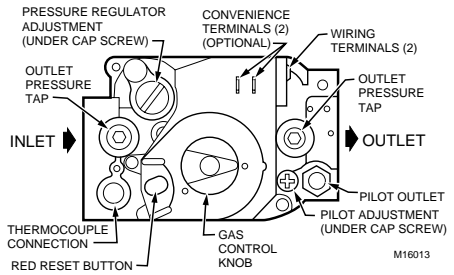

Fig. 5. Top view of gas control.
2. Remove the regulator cap screw and pressure regulator adjusting screw. See Fig. 5.
6. Connect the pipe to the gas control inlet and outlet. Use a wrench on the square ends of the gas control. If an adapter is used, place the wrench on the adapter rather than the gas control. Refer to Fig. 5 and 6.
- Unscrew the compression fitting from the pilot outlet (Fig. 5). Slip the compression fitting over the tubing and slide out of the way.
- Connect the control circuit to the gas control terminals. See Fig. 5 and 9.
1. Remove the pilot adjustment cover screw. See Fig. 5.